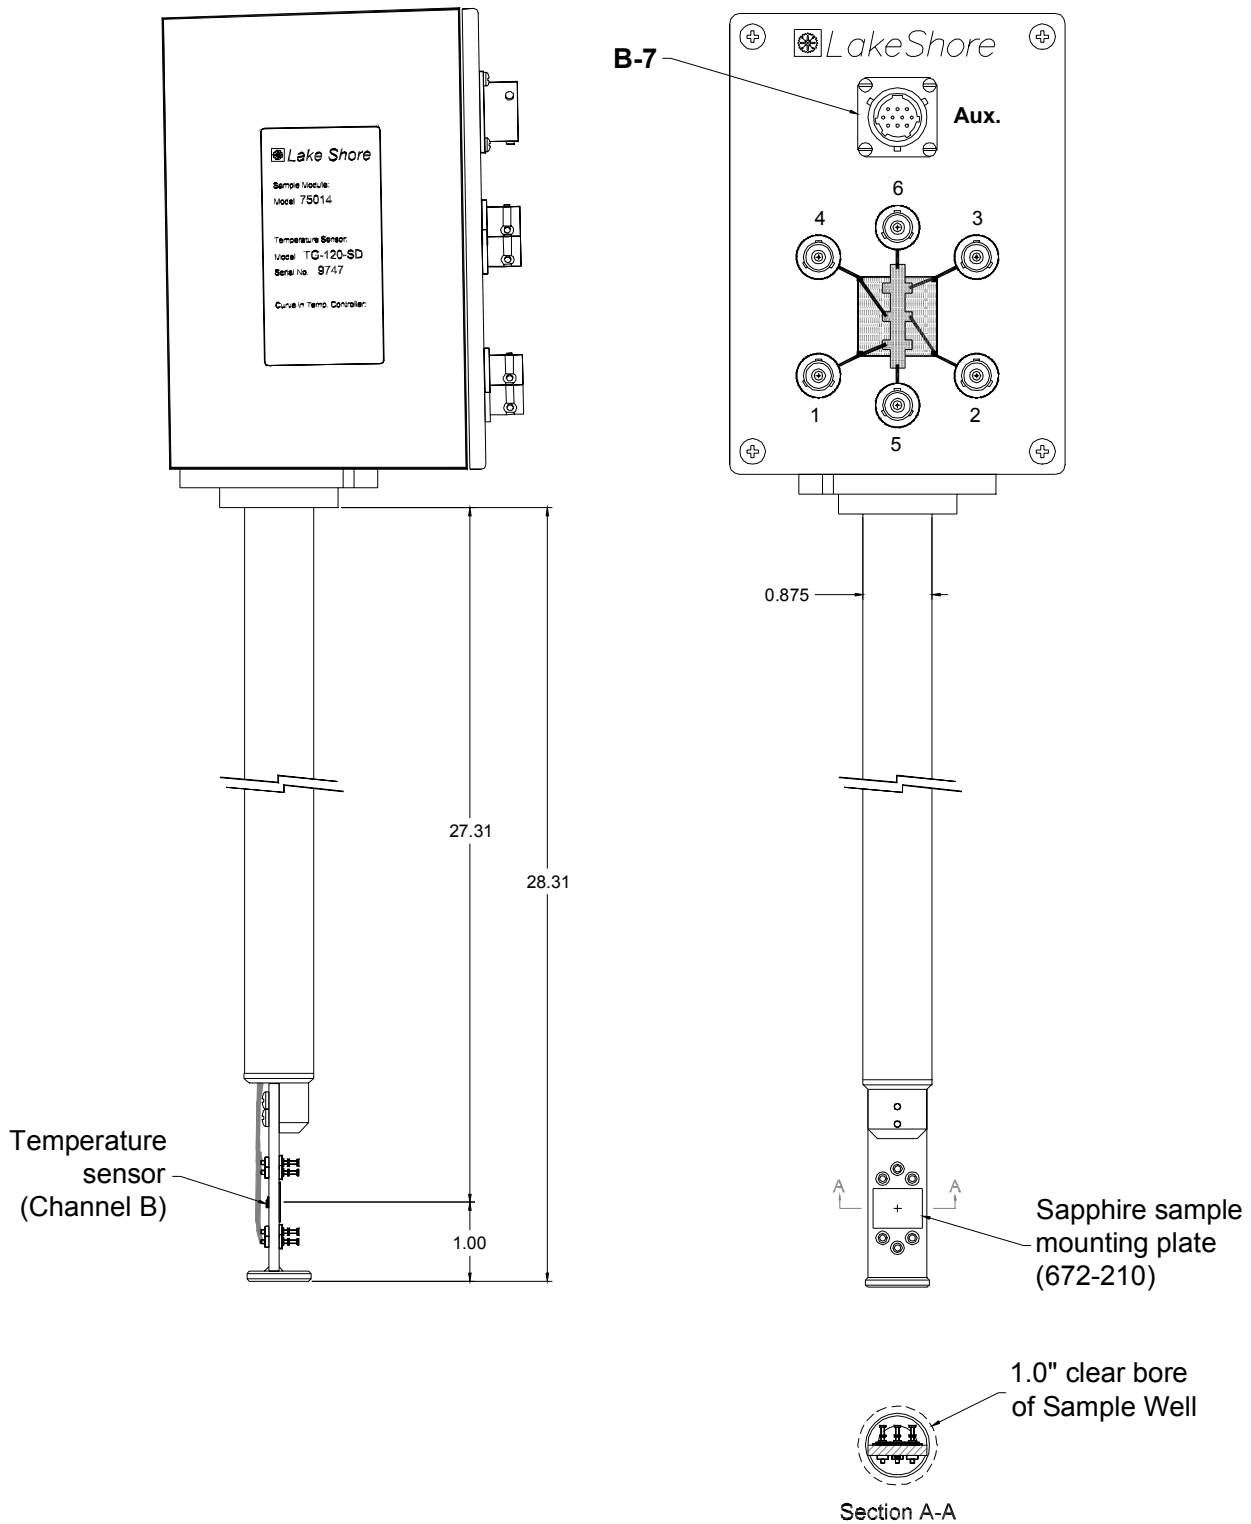

Figure 4-19. Model 75014 CCRSM Sample Insert, Style A.
- Sample Insert (see Figures 4-19 and 4-20)